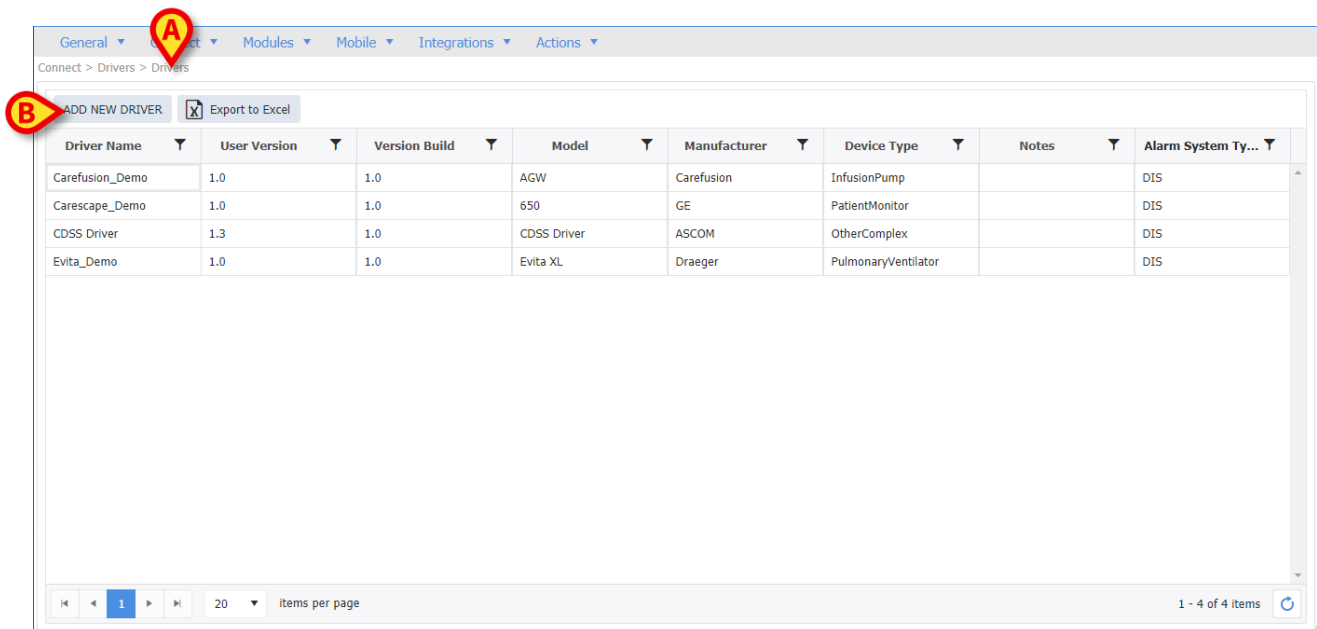

Fig 19
- Go to the Configurator Web main page, access the **Drivers** page (Fig 19 **A**) and click **ADD NEW DRIVER** (Fig 19 **B**).